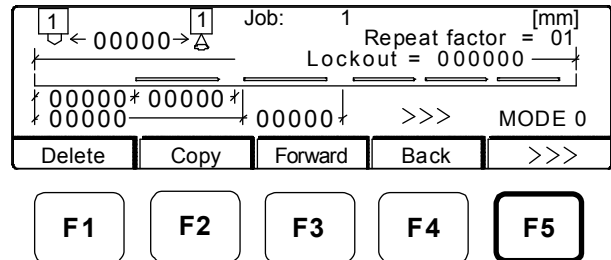

Figure 14-15. Glue-Pattern-Edit Menu
4. Press F2 (Yes). The glue-pattern-edit menu displays (Figure 14-15). The new job contains default values that can be used or changed to create your new job: